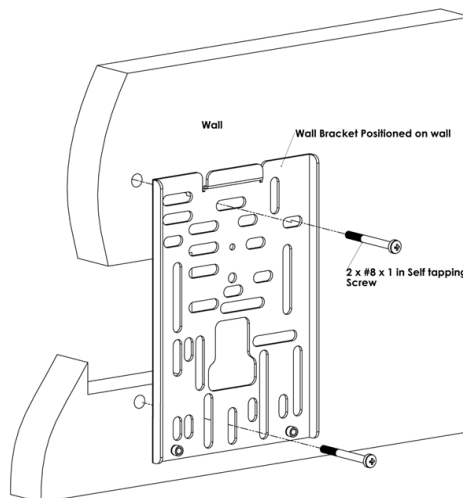

Figure 5. Mounting the Universal Wall Bracket
5. Affix the Universal Wall Bracket to the wall with two screws, as shown in Figure 5.